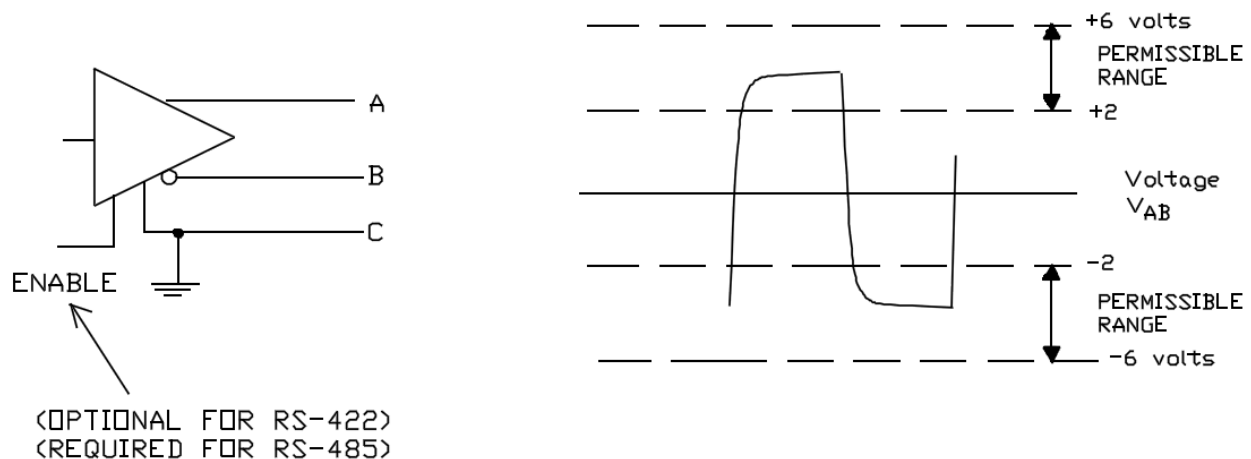

Figure. 2 Blanced Diffrential Output Line
In a balanced differential system the voltage produced by the driver appears across a pair of signal lines that transmit only one signal. Figure 2 shows a schematic symbol for a balanced line driver and the voltages that exist. A balanced line driver will produce a voltage from 2 to 6 volts across its A and B output terminals and will have a signal ground (C) connection.